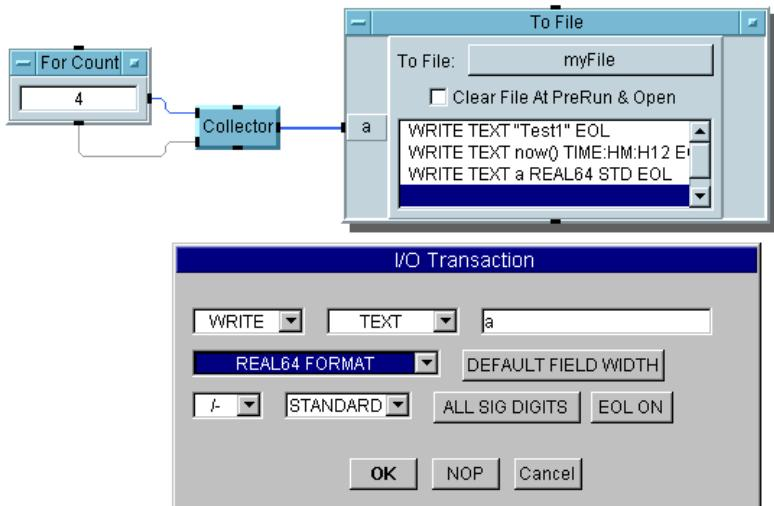

Figure 5-6. Storing Data Using the To File Object
5. Connect the output from the Collector to the input a of To File. The program should now look like Figure 5-6. (The configured I/O Transaction box is also displayed.)